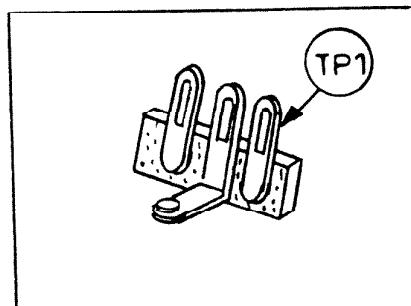

FIGURE 8 (SEE FIG. 12)
3. Connect an AC VTVM to test point #1 (Figure 8). Page 8.
1. Connect an AC VTVM to test point #1 (Figure 8).